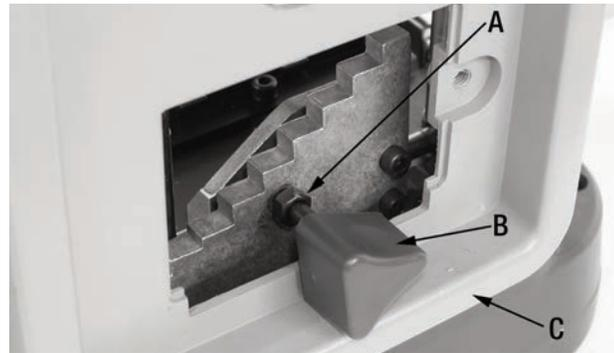

FIGURE 20
- 8) Once the cover has been removed, loosen the lock hex. nut (A) Fig.20, once loose loosen and remove the depth stop knob (B).
- 9) Remove the plastic side housing (C) Fig.20.